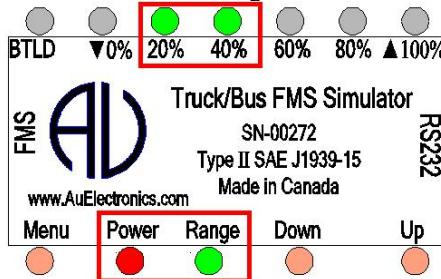

Figure 3-4 Power, Range, 20%, 40% LED on, indicating data range is from 41% to 59%
- If keep pressing Up button, the control step value will keep increasing. The 20% and 40% LED will be always on, as shown in Figure 3-4. It indicates the data range from 41% to 59%.